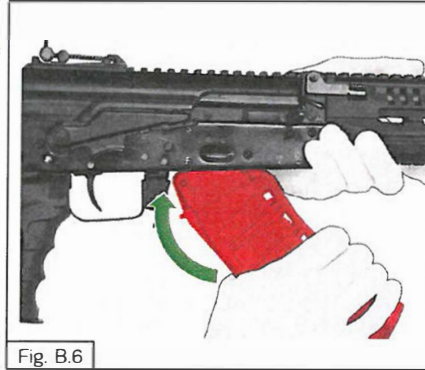

Fig. B.6
- attach the loaded magazine to the carbine as shown in Fig. B.6;